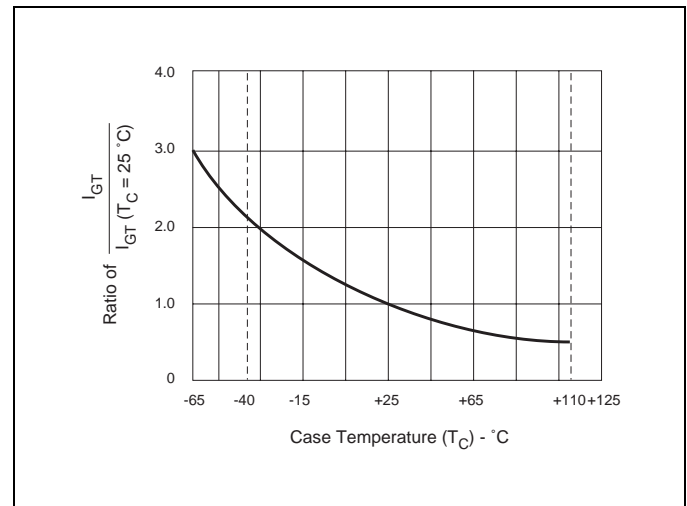

Figure E1.7 Normalized DC Gate Trigger Current for All Quadrants versus Case Temperature
- (6) See Figure E1.7 for I_{GT} versus T_C .